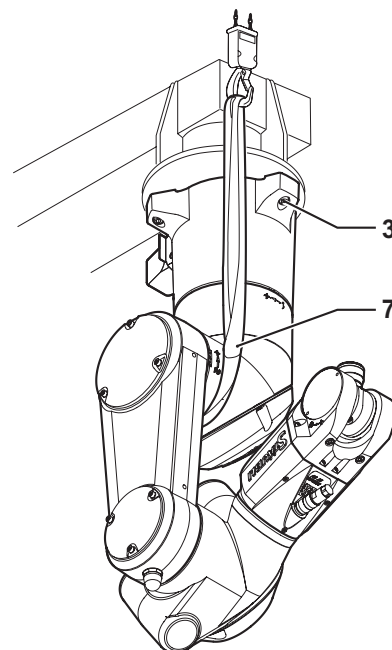

Figure 3.4
3.4.2. INSTALLATION OF ARM ON CEILING (figure 3.4)
- Place the fabric sling (7) around joint 2 as shown on figure 3.4.